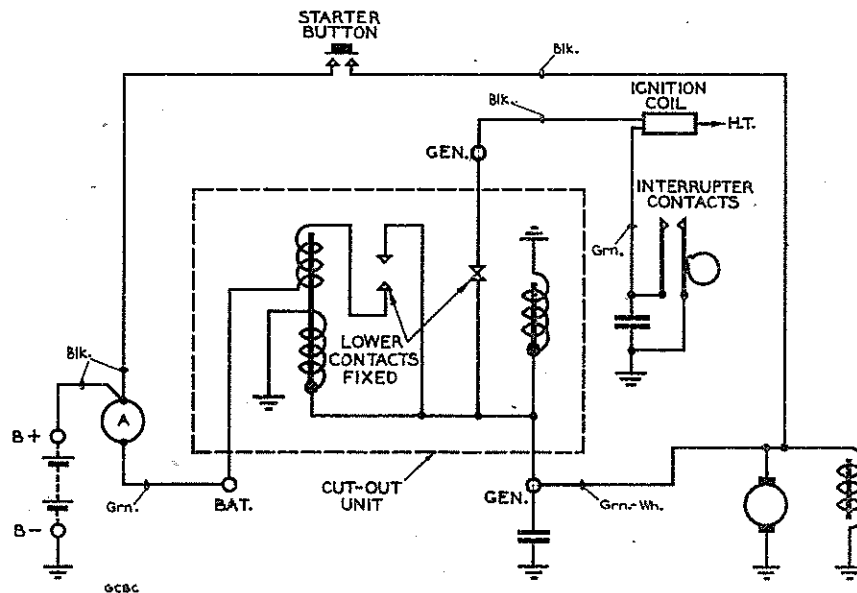

FIG.5. TINY TIM L 244 GENERATING SET. 24V. 300W. ELECTRICAL CONNEXIONS
ating fan. Periodical lubrication of the generator is not necessary. The electrical connexions of the set are shown in Figs.5 and 6.
10. The *cut-out unit* consists of two relays, one of which (reverse current cut-out) has two windings, a low-resistance winding connected in series with the generator and a high-resistance winding connected across the generator (see Figs.5 and 6). The contacts of this relay are normally open and close when the voltage across the high-resistance coil (i.e. across the generator) rises to 26. With the contacts closed, the output current passes through the series coil which assists the voltage coil to keep the contacts closed. If the current is reversed, due to the generator voltage falling below that of the battery, (e.g. due to the engine slowing down) the series coil opposes the voltage coil and the relay releases and disconnects the battery from the generator.